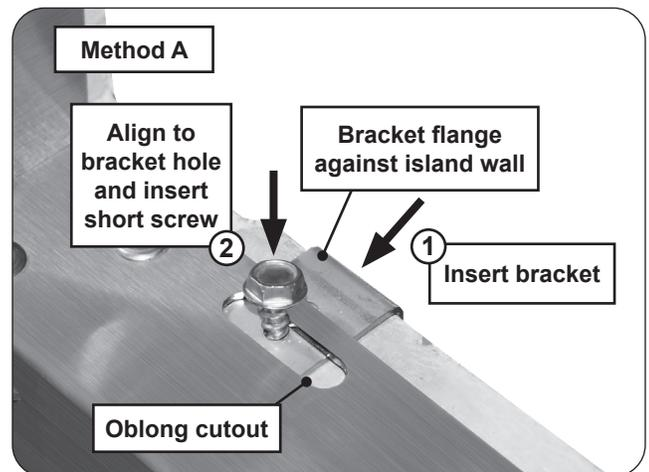

Fig. 3-2 Method A install detail
1. Use the oblong cutouts (or round holes) on opposite sides of the frame (either top and bottom or left and right). Reach from within the island and insert a bracket where a cutout exists, **between the wall and frame**. See Fig. 3-2, step 1.
2. While holding the rear of the bracket and the front of the frame **firmly** against the concrete wall, align a bracket hole to the frame's oblong cutout and insert a supplied short hex screw. Tighten the hex screw with a power drill and $\frac{5}{16}$ " hex driver (see Fig. 3-2, step 2). **DO NOT OVERTIGHTEN.**